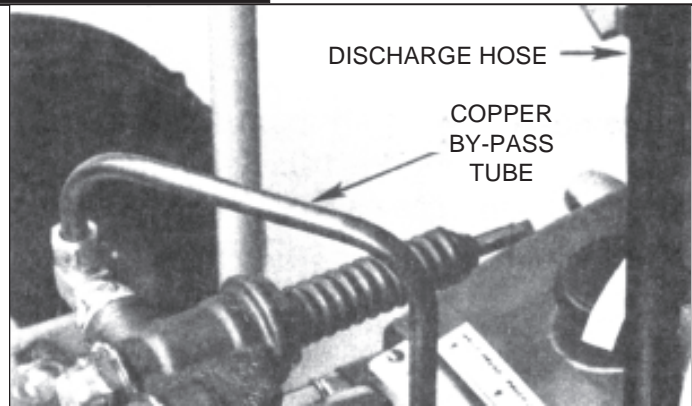

Figure 5
Refer to *Figure 5*. The Model S Porta-Washer has two (2) separate inlet systems. When the selector valve is turned to the "RINSE" position, a fresh water source is being used. When the ball valve is turned to the "WASH" position, the unit is then drawing product from the 55 gallon drum. The Model S provides 600 psi at the nozzle in both "WASH" and "RINSE" operations. The product or solution in the 55 gallon drum must be manually prepared to provide the concentration desired. There is no product metering device in the Model S. The Model S is turned off at the main unit mounted on the barrel.
1. **Model P & S** – Remove pump discharge hose (*Figure 5*) - first, disconnect at swivel fitting which secures hose to “WASH/RINSE” valve manifold; second, disconnect hose from pump.
2. **Model P & S** - Remove the copper bypass tube from pump by removing compression fittings at both ends of the tube (*Figure 5*).